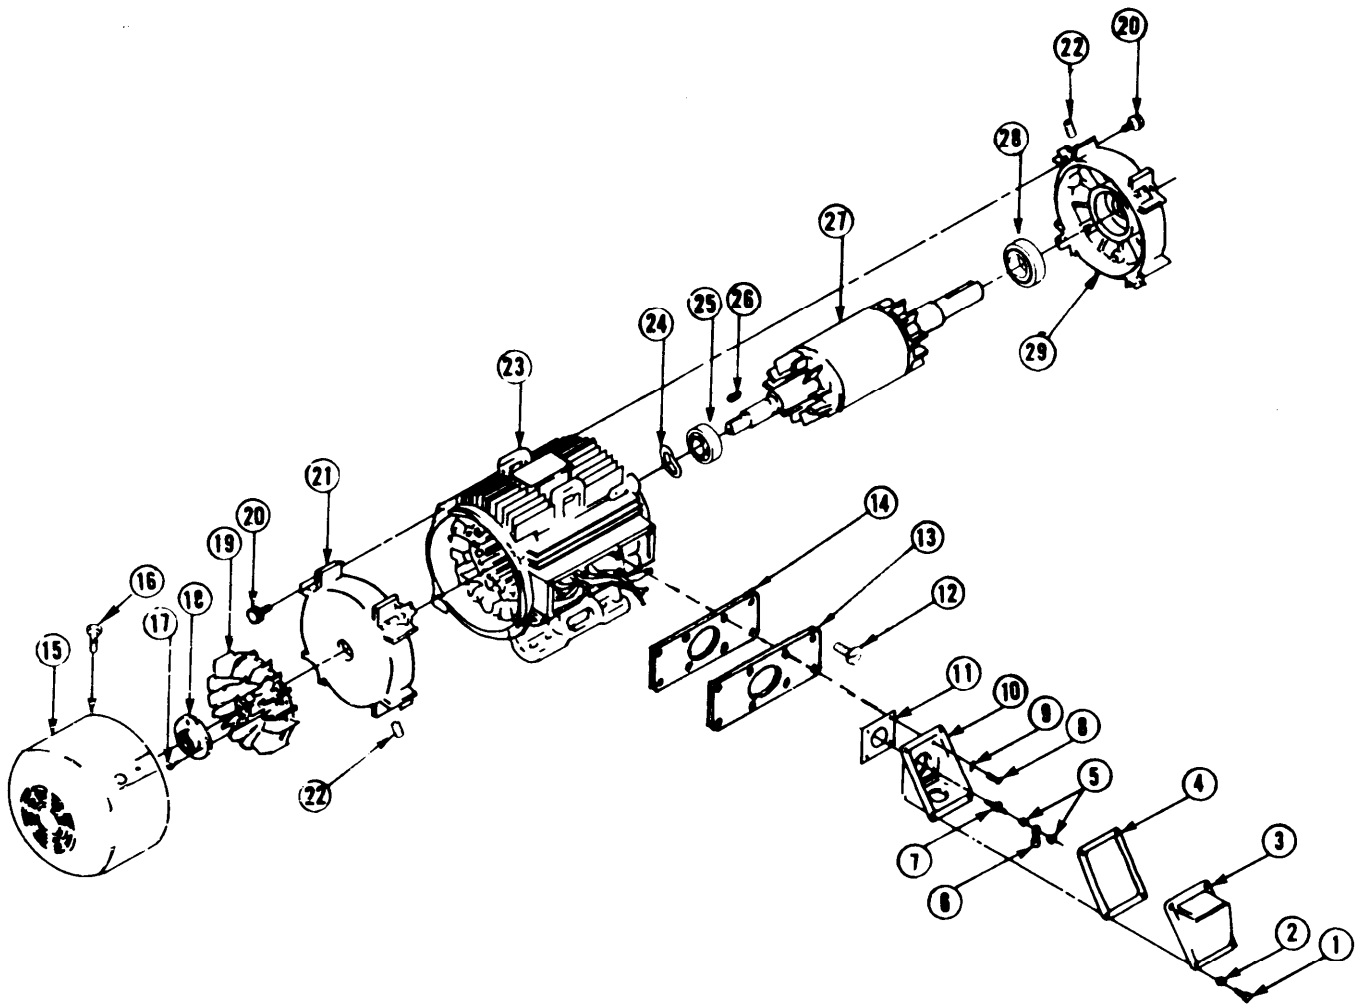

Figure 3-6. R.O. Pump Motor Assembly
3-11. R.O. PUMP MOTOR ASSEMBLY. (Figure 3-6)
(5) Move motor into workshop.
(6) Remove pump from motor in accordance with paragraph 2-47.
(7) Remove four screws (1) (figure 3-6) and four lockwashers (2) from conduit box (10), gasket (4), and conduit box cover (3).
(8) Remove conduit box cover (3) and gasket (4) from conduit box (10). Discard gasket (4).
(9) Remove nut (5), ground lug (6), and second nut (5) from grounding stud (7).
(10) Remove grounding stud (7) from motor casing (27) and conduit box (10).
- (11) Remove three screws (8) and three lockwashers (9) from lead cover (13), and conduit box (10).
- (12) Remove conduit box (10) and gasket (11) from lead cover (13). Discard gasket (11).
- (13) Remove four screws (12) from motor casing (23), gasket (14), and lead cover (13). Discard gasket (14).
- (14) Remove four screws (16) from fan-end plate (21) and fan cover (15).
- (15) Remove fan cover (15) from fan-end plate (21).
- (16) Remove three screws (17) and holding clamp (18) from split hub of fan (19).
- (17) Remove fan (19) from rotor shaft (27).
(1) Replace all gaskets, seals, and O-rings.
(2) Replace ail damaged nuts, bolts, screws, washers, shaft keys, Woodruff keys, and wavy washers.
(3) Replace damaged, worn, or unserviceable ball bearing assemblies
(4) Repack serviceable clean bearings with fresh bearing grease before installation.
(5) Deburr rotor shaft and remove any residue by buffing with fine emery cloth.
(6) Straighten bent or dented cooling fan blades and ventilation louvers.
(7) Replace damaged, unrepairable, or unserviceable motor casing assembly.
(8) Send all unserviceable, unrepairable, or damaged motor assemblies to next higher level of maintenance.
(9) Repaint, as needed, in accordance with Standard Operating Procedures.
g. Reassembly. (Figure 3-6)
(1) Align prepunched indexing marks on motor casing (23) (figure 3-6) and fan-end plate (21).
(2) Install fan-end plate (21) to motor casing (23) with four bolts (20).
(3) Press ball bearing (25) on rotor shaft (27).
(4) Press ball bearing (28) on rotor shaft (27).
(5) Slide wavy washer (24) on rotor shaft (27).